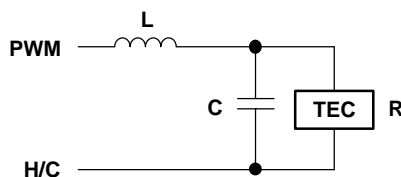

Figure 22. LC Output Filter
For the DRV593 and DRV594, the differential output switching frequency is typically selected to be 500 kHz. The resonant frequency for the filter is typically chosen to be at least one order of magnitude lower than the switching frequency. equation (5) may then be simplified to give the following magnitude equation (6). These equations assume the use of the filter in Figure 22.